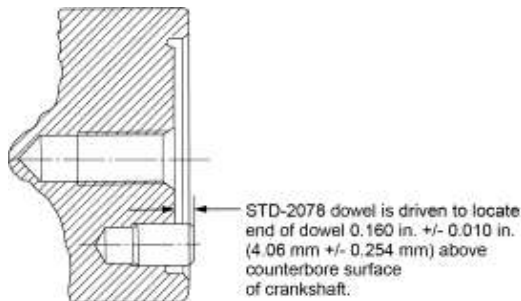

Figure 29
- (1) Examine the alignment dowel installed in the end of the crankshaft.
- (2) Make sure the alignment dowel is perfectly smooth and round, without nicks, cracks, or deformation.
- (3) Make sure that the end of the dowel is 0.160 in. +/- 0.010 in. (4.06 mm +/- 0.254 mm) above the counterbore surface of the crankshaft as shown in Figure 29.
- (4) Make sure the alignment dowel fits tightly in the crankshaft. It must not spin or be loose.